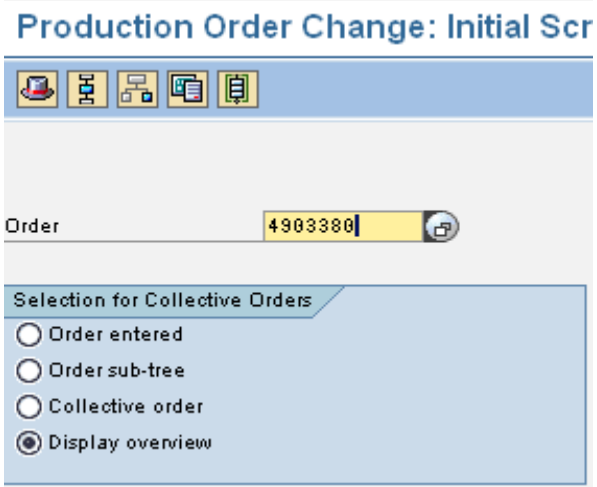

Fig. 2
- 5.4. Enter the production order number in the “Order” text box (Fig. 2)